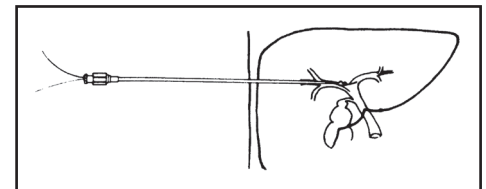

Figure 3.
7. Advance 0.97 mm (0.038 in) wire through sheath out end hole. See Figure 3.